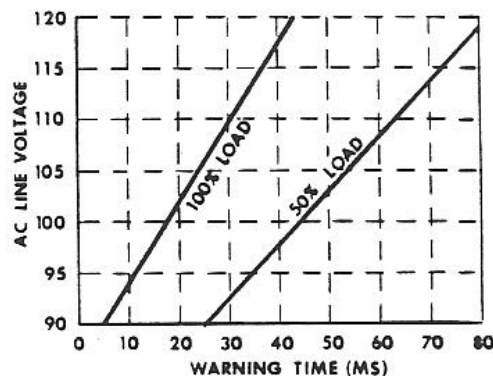

Figure 5: POWER FAIL TIMING CURVE (SPL250 only)
- 1) Select the desired time delay from the graph in figure 5, and note the line voltage associated with it.